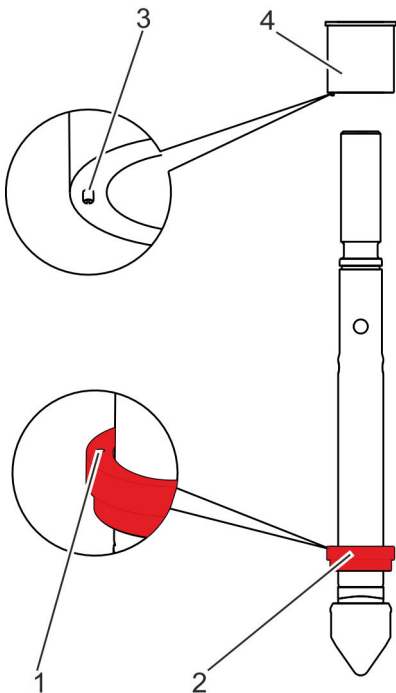

Fig. 46: Fitting on the mounting sleeve
- 24.** ▶ Fit the mounting sleeve (Fig. 46/4) on the stem.
- 25.** ▶ Insert the centring pin (Fig. 46/3) of the mounting sleeve (Fig. 46/4) in the centring bore (Fig. 46/1) of the backseat ring (Fig. 46/2).